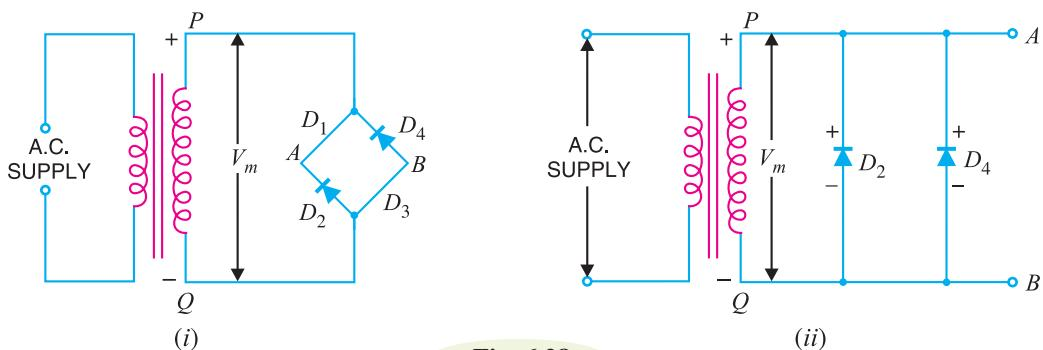

Fig. 6.28
**Peak inverse voltage.** The peak inverse voltage (PIV) of each diode is equal to the maximum secondary voltage of transformer. Suppose during positive half cycle of input a.c., end  $P$  of secondary is positive and end  $Q$  negative. Under such conditions, diodes  $D_1$  and  $D_3$  are forward biased while diodes  $D_2$  and  $D_4$  are reverse biased. Since the diodes are considered ideal, diodes  $D_1$  and  $D_3$  can be replaced by wires as shown in Fig. 6.28 (i). This circuit is the same as shown in Fig. 6.28 (ii).
Referring to Fig. 6.28 (ii), it is clear that two reverse biased diodes (i.e.,  $D_2$  and  $D_4$ ) and the secondary of transformer are in parallel. Hence PIV of each diode ( $D_2$  and  $D_4$ ) is equal to the maximum voltage ( $V_m$ ) across the secondary. Similarly, during the next half cycle,  $D_2$  and  $D_4$  are forward biased while  $D_1$  and  $D_3$  will be reverse biased. It is easy to see that reverse voltage across  $D_1$  and  $D_3$  is equal to  $V_m$ .